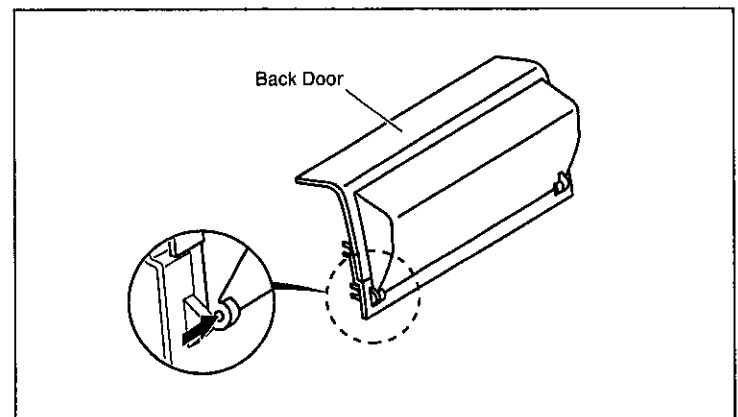

Fig. 8-11
- 1) Push the Back Door, as shown in Fig. 8-11.